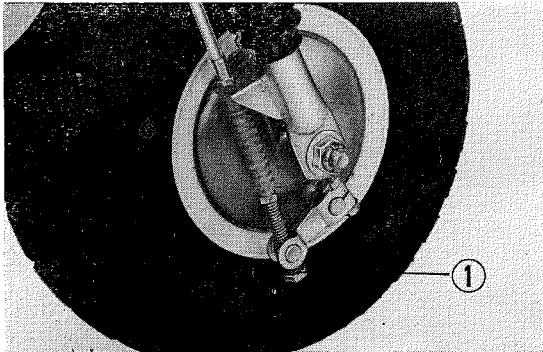

Fig. 55 Brake adjusting nut
2. Unscrew the front arm adjusting nut to disconnect the front brake cable. (Fig. 55)